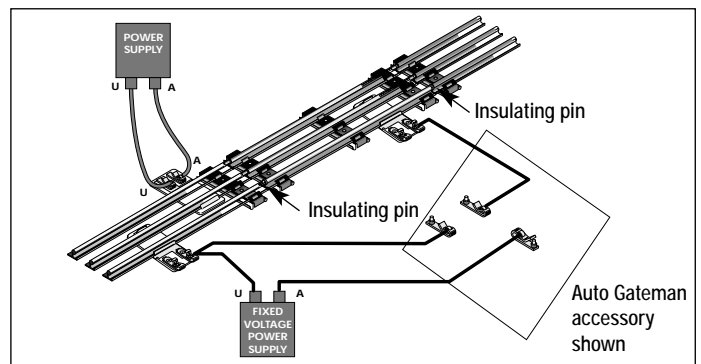

Figure 3. Replacing the on/off switch
**S**ome accessories have two power terminals (for Power/A and Common/Ground/U) and switch connections. As illustrated in Figure 3, you may connect the switch terminal to the track so that your train will turn on the accessory when the train enters the insulated section.